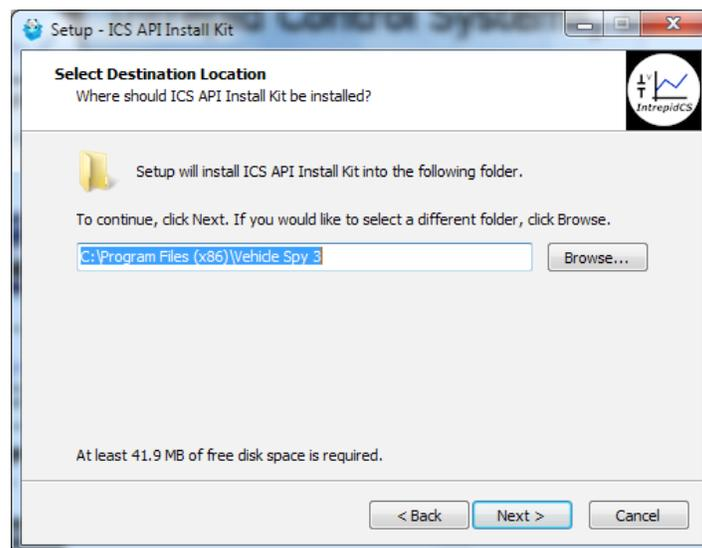

Figure 38: Choosing the API Kit Destination Location.
7. **Select Destination Location:** Choose where you want to install Vehicle Spy 3 (Figure 38). We normally recommend keeping the default location. Click .